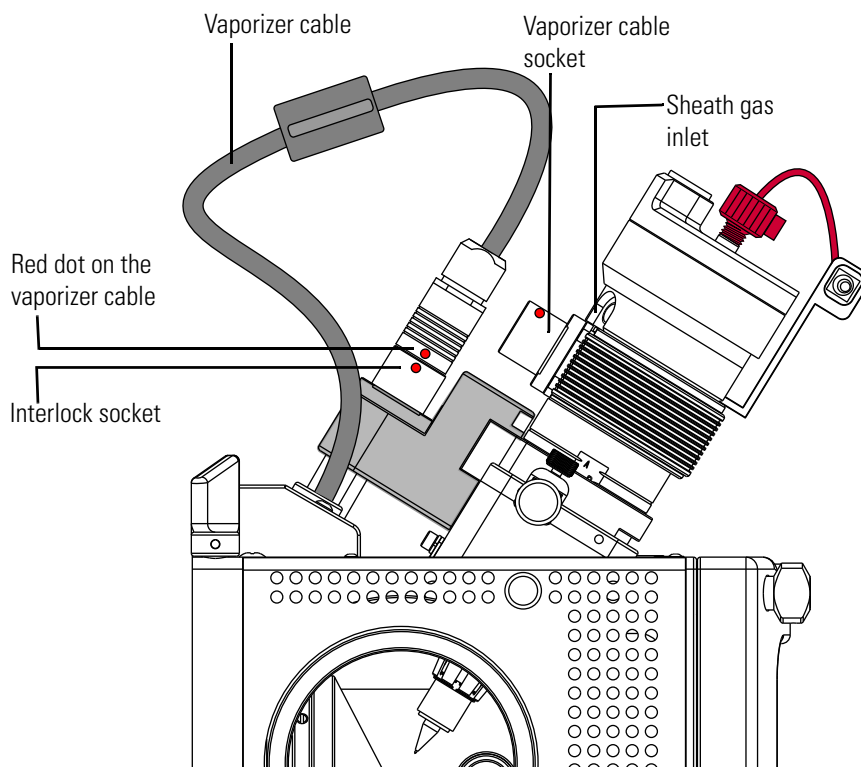

Figure 8-19. API source housing (left side view)
5. Connect the vaporizer cable to the interlock socket on the interlock block. To align the socket pins, align the red dot on the vaporizer cable connector with the red dot on the interlock socket (Figure 8-19).
connector with the red dot on the socket. Figure 8-19 on page 8-34 shows the red alignment dots on the connector and the socket.